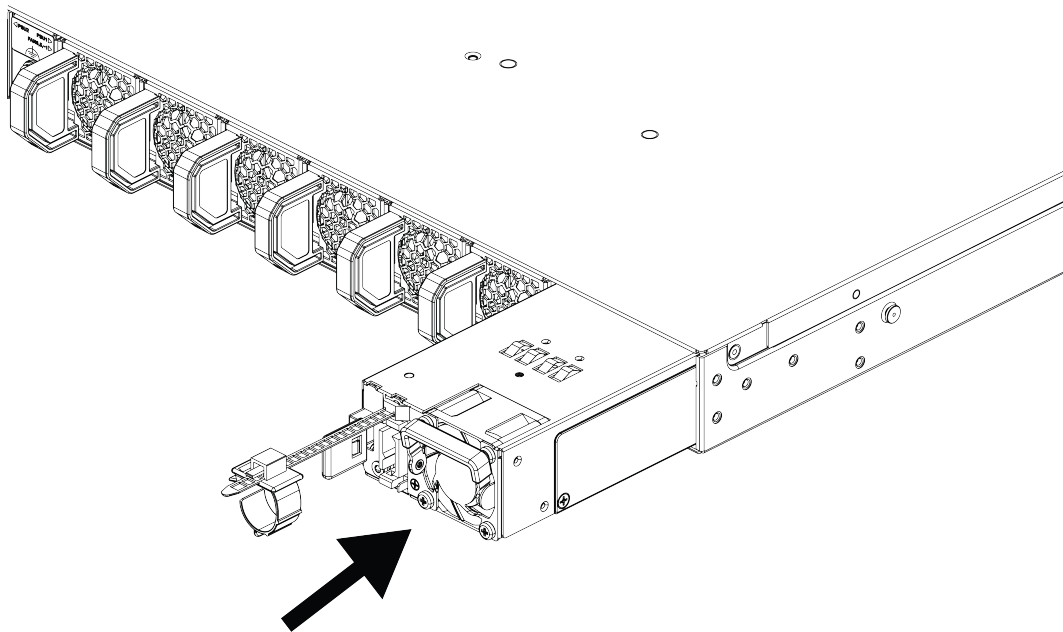

Figure 29: Replace an 800 W DC Power Supply
- Carefully slide the power supply all the way into the power supply bay until the latch snaps into place, as shown in Figure 29.